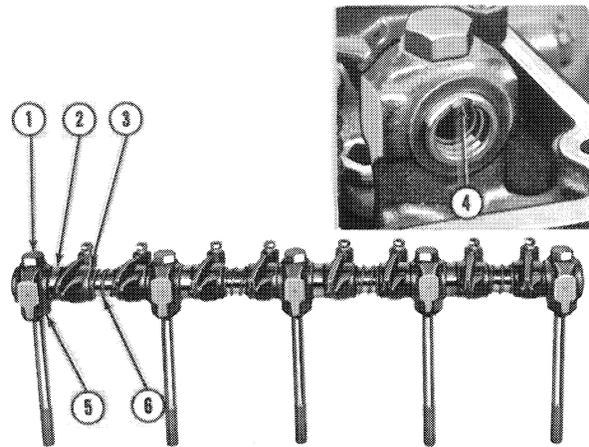

Figure 16
To disassemble the rocker shaft assembly, remove the bolts that attach the rocker shaft to the cylinder head from the rocker shaft supports, Figure 16.
2. The rocker shaft has an identification groove at one end of the shaft. Position the mark upward and use this end as the front of the shaft, Figure 16. This puts the oil holes and grooves in the shaft facing down.
4. Be sure the springs and spacers are in their correct position, Figure 16, then proceed with the assembly.